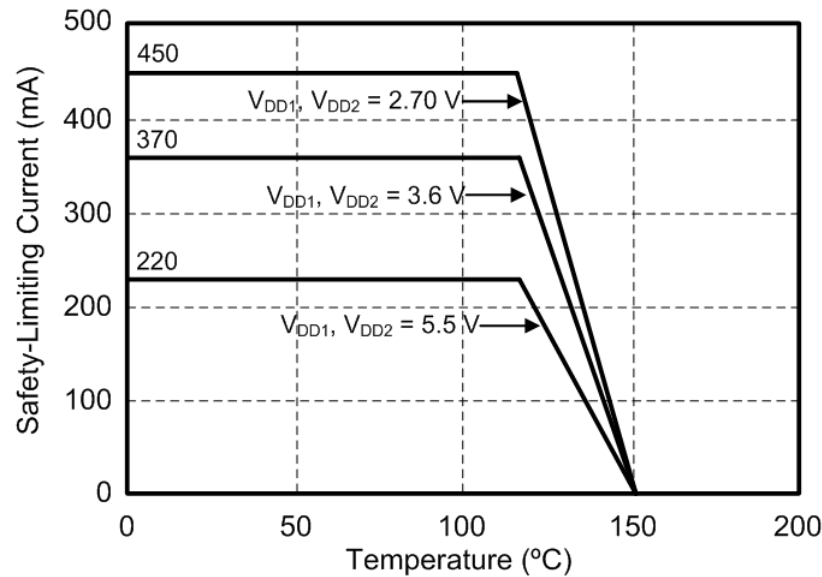
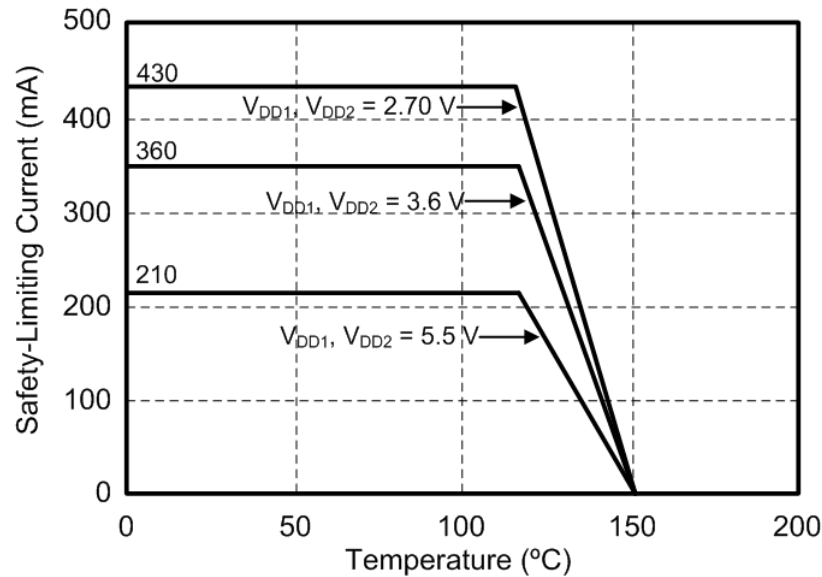

Figure 4.4. (WB SOIC-16) Thermal Derating Curve, Dependence of Safety Limiting Values with Case Temperature per DIN EN 60747-5-5/VDE 0884-10, as Applies
Figure 4.5. (NB SOIC-16) Thermal Derating Curve, Dependence of Safety Limiting Values with Case Temperature per DIN EN 60747-5-5/VDE 0884-10, as Applies
- Maximum value allowed in the event of a failure; also see the thermal derating curve in [Figure 4.4 \(WB SOIC-16\) Thermal Derating Curve, Dependence of Safety Limiting Values with Case Temperature per DIN EN 60747-5-5/VDE 0884-10, as Applies on page 24](#) and [Figure 4.5 \(NB SOIC-16\) Thermal Derating Curve, Dependence of Safety Limiting Values with Case Temperature per DIN EN 60747-5-5/VDE 0884-10, as Applies on page 24](#).